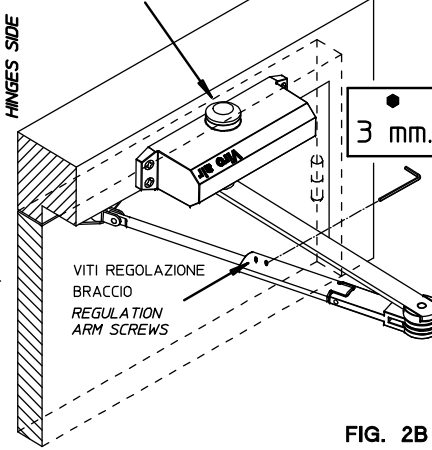

FIG. 2B
7. INSTALLARE A PRESSIONE IL COPERCHIETTO DI PLASTICA NELLA PARTE INFERIORE DEL CHIUDIPORTA (VEDI FIG.2B).
7. INSTALL THE PLASTIC CAP WITH PRESSURE OVER THE SPINDLE ON THE BOTTOM SIDE OF THE DOORCLOSER (SEE FIG.2B).